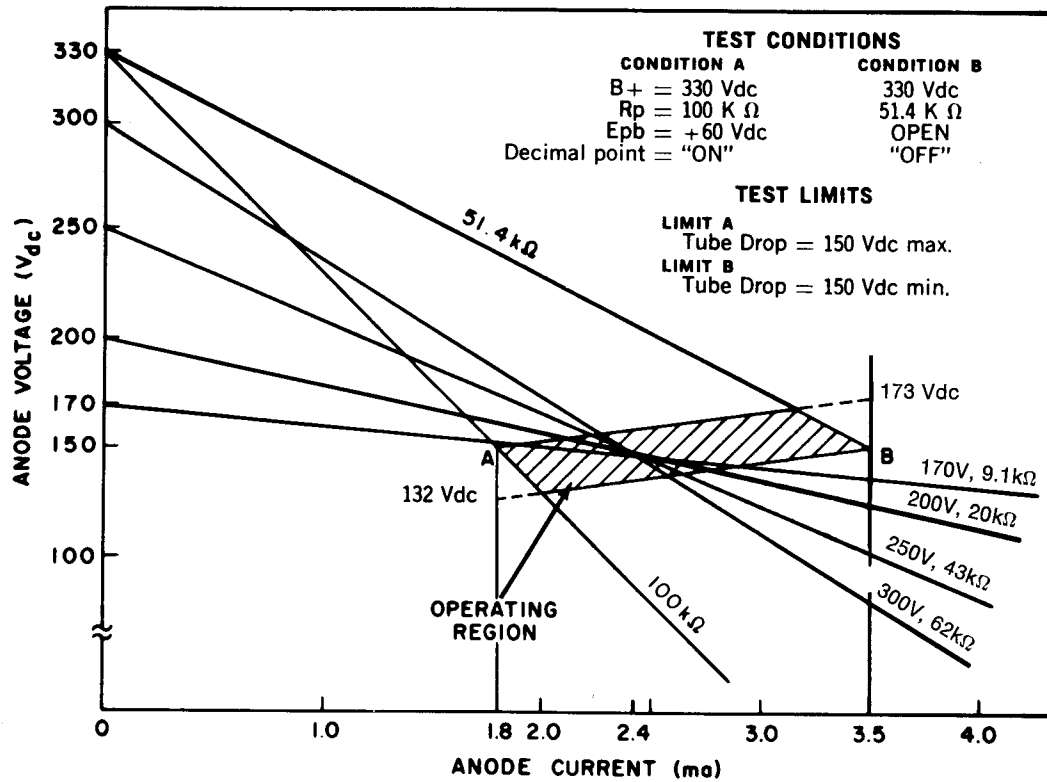

Figure 6. TUBE CHARACTERISTICS (NOTE 7)
7. For proper NIXIE tube operation, a load line must pass through the operating region (shaded area) above point "A" and below point "B" in Figure 6. Operation at an anode current below point "A" can result in partial or incomplete numeral glow. Operation at an anode current above point "B" can result in not only spurious numeral glow but also shorter life. Typical load lines for 170 Vdc-10 kΩ, 200 Vdc-22 kΩ, 250 Vdc-43 kΩ, and 300 Vdc-62 kΩ are shown. The limits of the operating region were determined at the 330 V-100 kΩ, 330 V-51.4 kΩ. At these limits the tubes will exhibit an anode current within the limits of 1.8 ma min. and 3.5 ma max. These limits can be used to determine if a tube meets the specification.